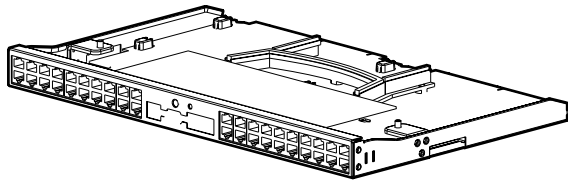

Figure 4. ProLiant BL e-Class RJ-45 Patch Panel
- ProLiant BL e-Class RJ-45 Patch Panel: The RJ-45 patch panel functions as an Ethernet pass-through only and has forty RJ-45 connectors. It brings all server blade NIC signals out as separate RJ-45 connectors. See Figure 4.